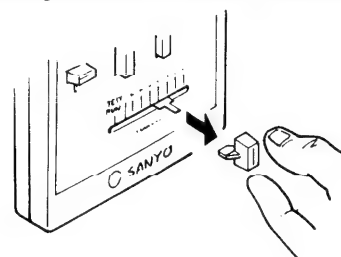

Fig. E-8
- Pull off the thermostat knob. Fig. E-8.